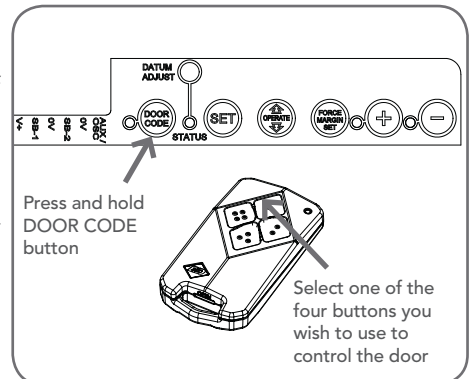

Fig. 8.1
- Press the DOOR CODE button and release. The DOOR CODE LED will illuminate to indicate the opener is in Code Learn mode. If a valid code is not stored within 15 seconds the opener will exit Code Learn. **(Fig 8.1)**
- Press one of the four (4) buttons on the transmitter for two (2) seconds, the DOOR CODE LED will begin to flash, pause for two (2) seconds, then press the same button again for two (2) seconds.